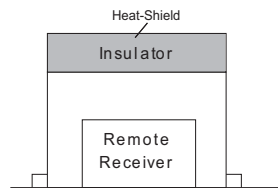

Figure 5
TIMER OPERATION. See Figure 5
- In order to prevent the Remote Receiver (fireplace installation only) from overheating, put a heat shield (option item) above the Remote Receiver. See *Figure 5*.